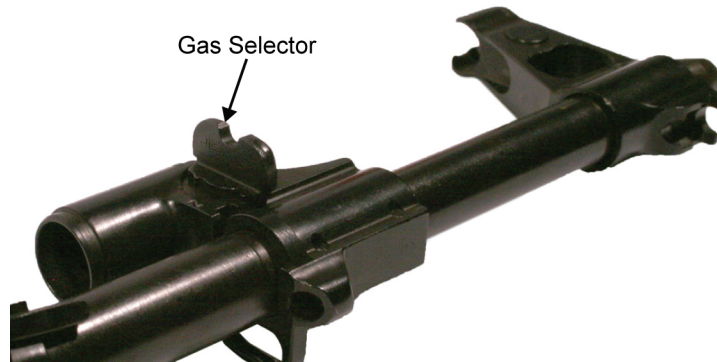

Figure 78. Gas Selector in the UP Position.
- d. Switch the gas selector to the UP position (perpendicular to the barrel), indicating normal use. Refer to Figure 78.